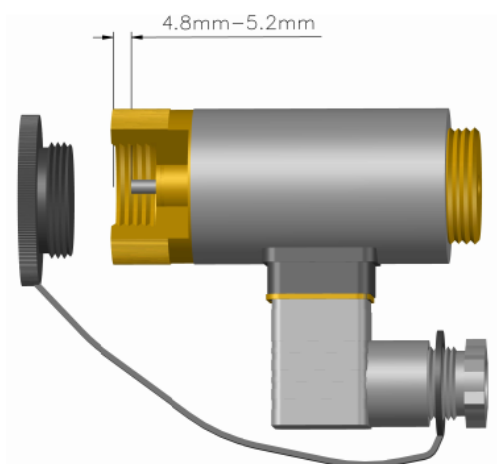

Figure 41 Removable Electrical Actuator Non-Fire Position
- Carefully screw the removable electrical actuator onto the cylinder valve. **Prior to fitting, ensure the unit is reset in the non-fire position. (Normally height from end of pin to base is 4.8 to 5.2mm (See Figure 41)**